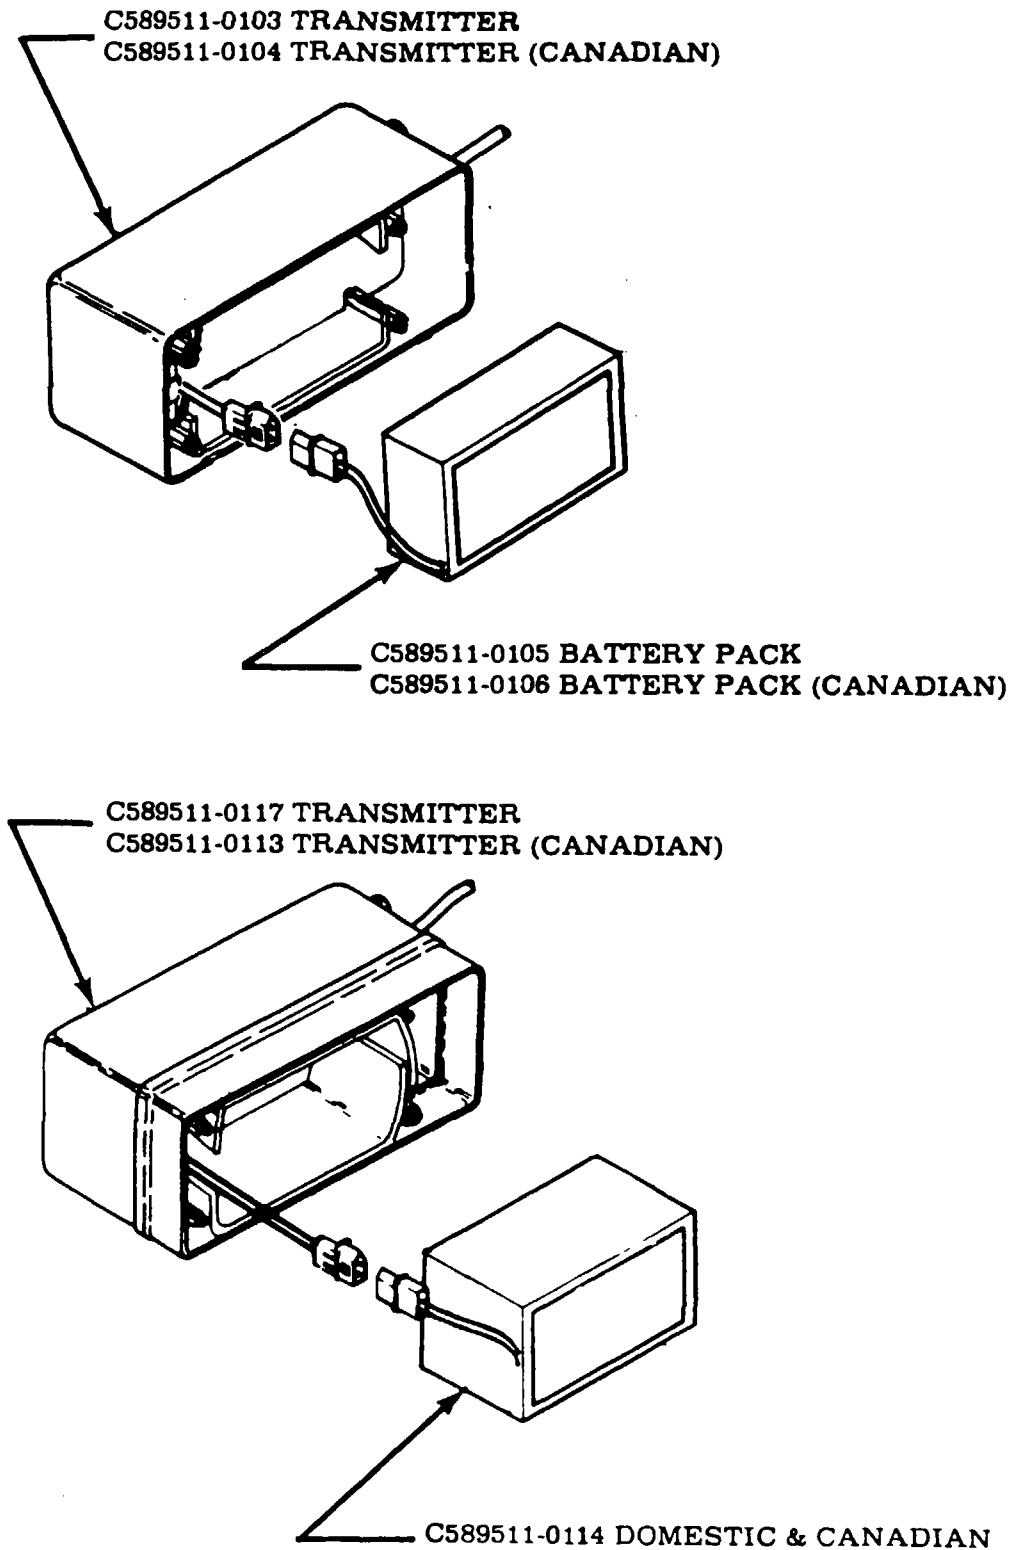

Figure 16-17. Battery Pack Installation
#### 16-115. REMOVAL AND INSTALLATION OF BATTERY-PACK. (See figure 16-17).
- d. Place new battery-pack in the transmitter with four batteries as shown in the case in figure 16-17.
- e. Connect the electrical connector as shown in figure 16-17.